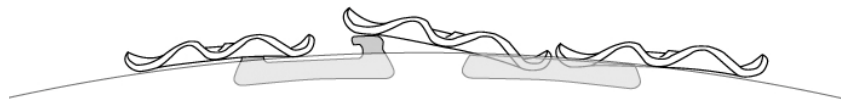

Fig. 4
4. Rotate the wheel 180° forward so the free end of the chain can meet with the fastened end (Fig. 4).